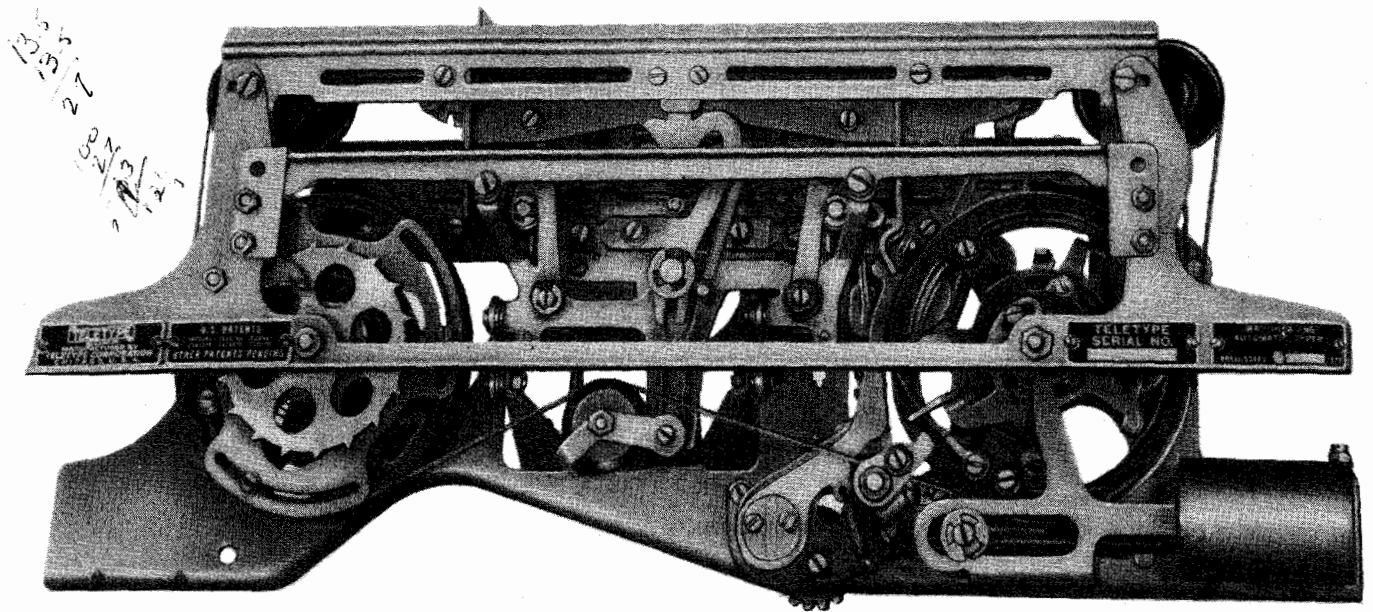

Figure 1-6. Automatic Typewriter Front Plate
(3) Paper feeds from a five inch (maximum) diameter roll mounted on the Automatic Typewriter and passes around a stationary platen. Provisions are made for readily converting to sprocket type feed for fan-fold forms which may be used optionally in conjunction with friction feed paper. Interchanging of Automatic Typewriter sub-assemblies involves the minimum in readjusting procedure (figures 1-6, 1-7, 1-8). Type pallets are arranged in a compact, lightweight type box which may be readily detached for cleaning or for quick replacement by another type box. In operation, the type box keeps step with a printing carriage and presents the proper type pallets to the printing hammer to receive its strokes as the printing carriage advances along the line. Combined automatic carriage return and line feed functions operate to return the carriage in case overprinting occurs at the end of a line.
(4) In addition to the conventional functions common to teletypewriters, built-in facilities permit the addition of selective station call or recognition functions with electrical circuits associated therewith available for remote extension. In such applications the